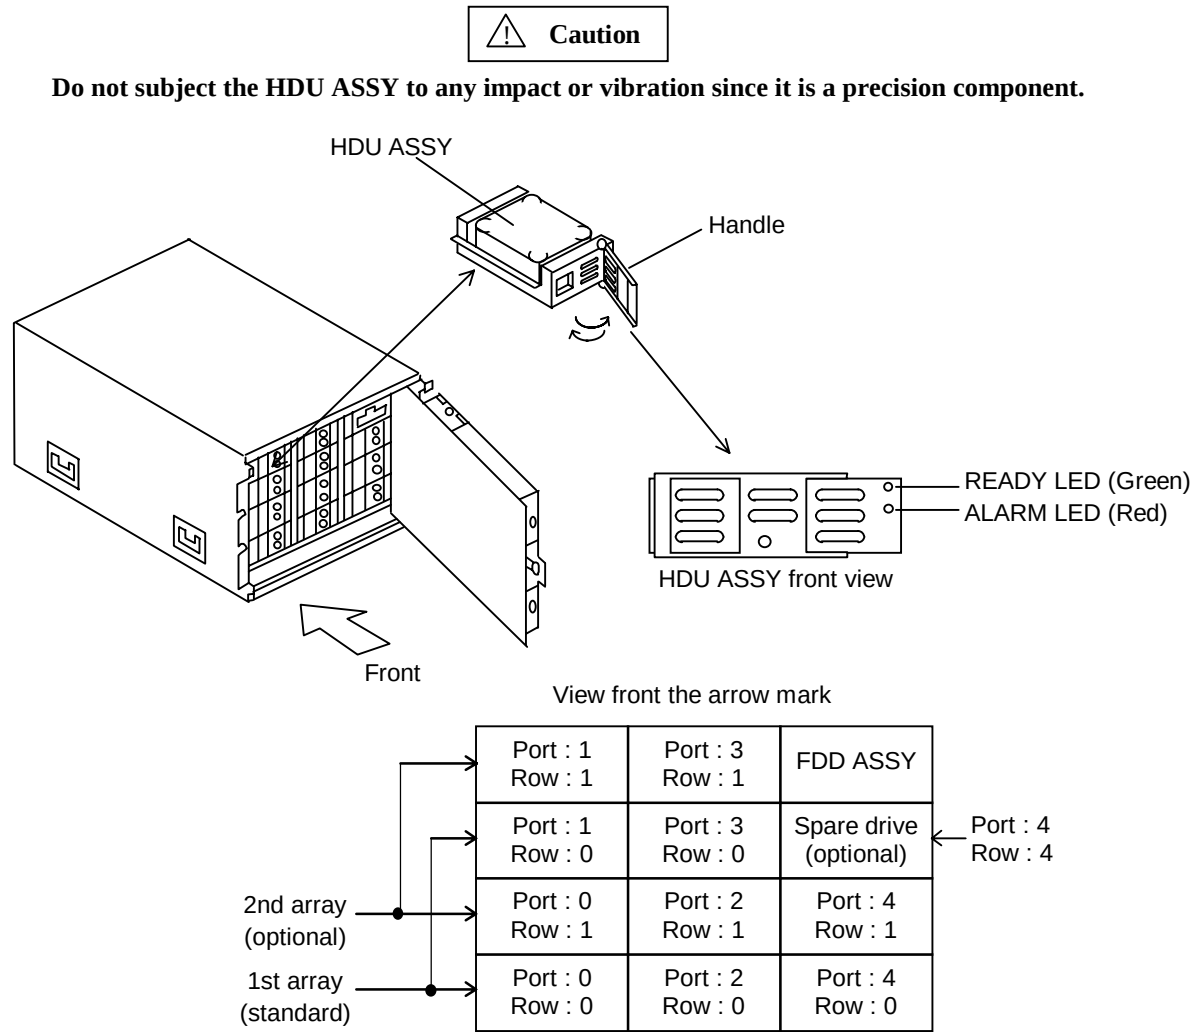

Figure 3.2.4 Installing HDU ASSY
3.2.2 Installing HDU ASSY (See Figure 3.2.4.)